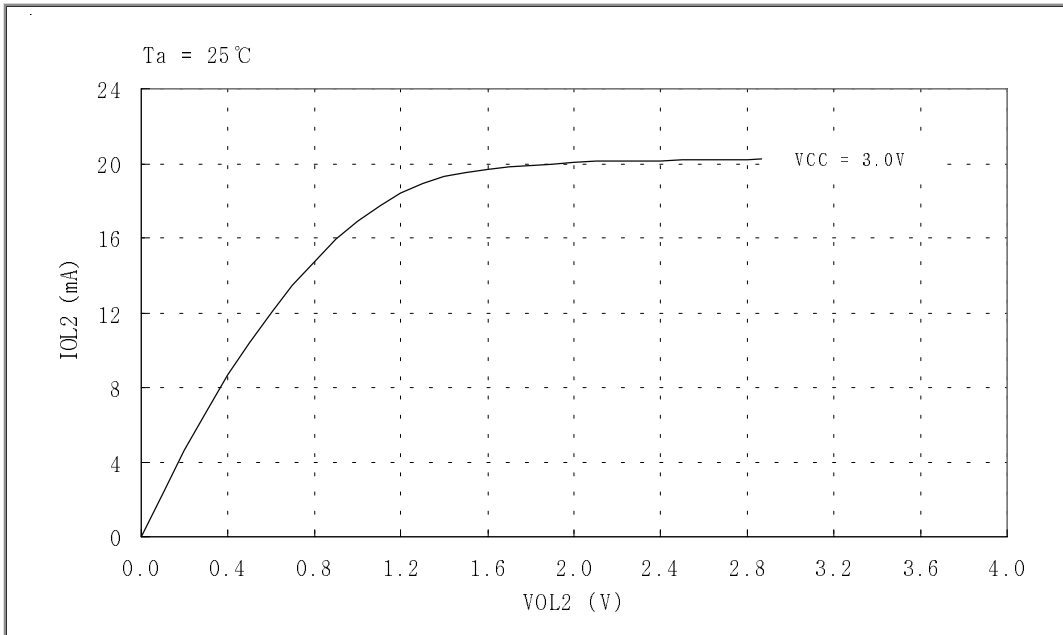

Fig 2-5. I_{OL2} vs. V_{OL2} Graph. (D, R Port)
*1 Refer to < Fig.2-5 I_{OL2} vs. V_{OL2} Graph >